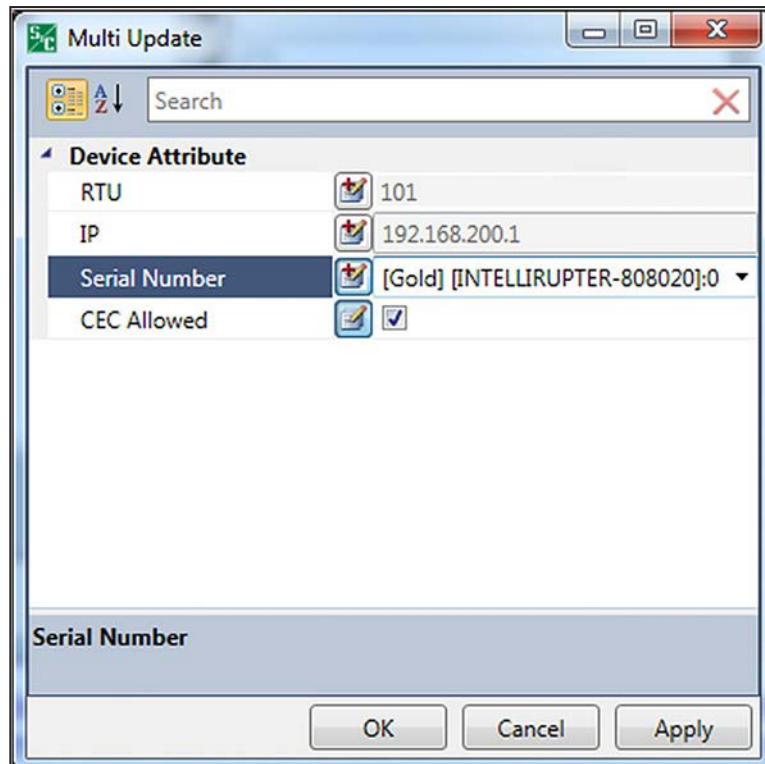

Figure 72. CEC Allowed value is selected.
STEP 11. Toggle the **Serial Number** button and select a starting serial number. Also toggle the **CEC Allowed** button and check the box for CEC Allowed. See Figure 72.